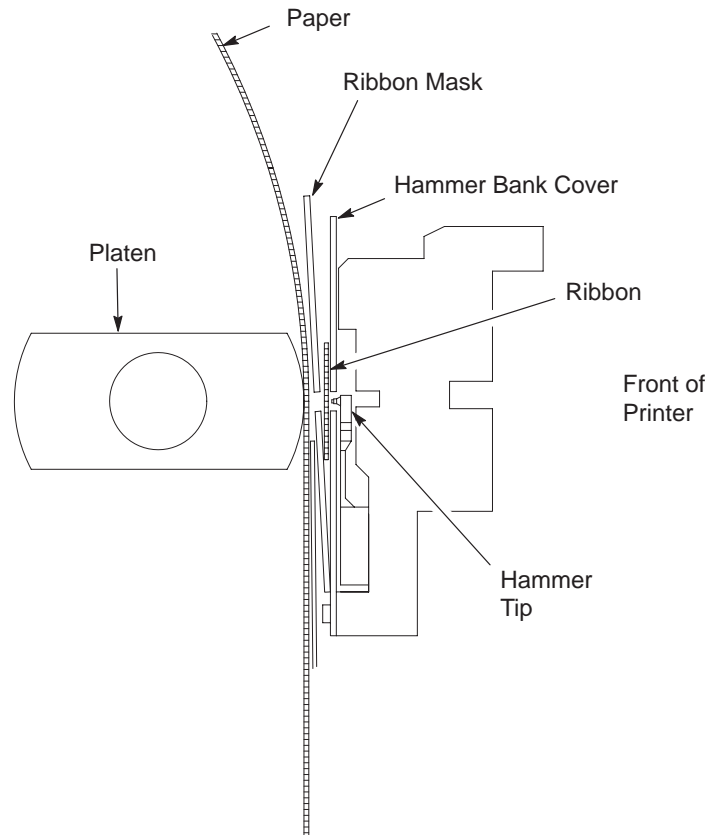

Figure 2–33. Ribbon Path
8. Referring to Figure 2–33 and the ribbon path diagram on the shuttle cover, thread the ribbon as follows: